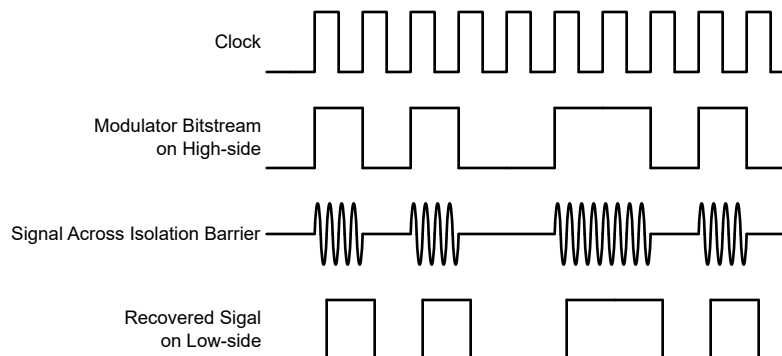

Figure 6-3. OOK-Based Modulation Scheme
The AMC3306M25-Q1 uses an on-off keying (OOK) modulation scheme, as shown in Figure 6-3, to transmit the modulator output bitstream across the SiO₂-based isolation barrier. The transmit driver (TX) shown in the Functional Block Diagram transmits an internally generated, high-frequency carrier across the isolation barrier to represent a digital *one*. However, TX does not send a signal to represent a digital *zero*. The nominal frequency of the carrier used inside the AMC3306M25-Q1 is 480MHz.